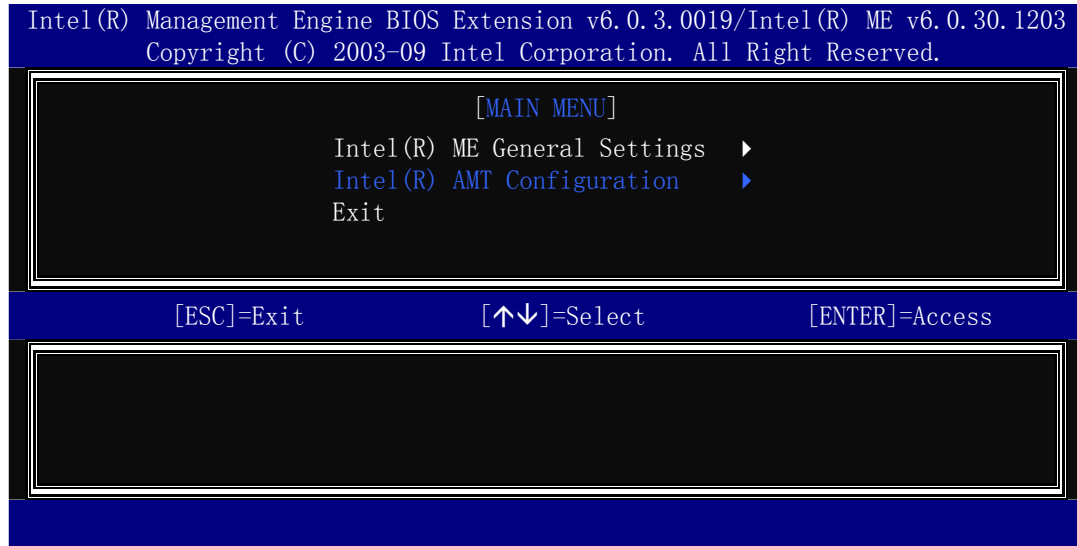

Figure A-4: Intel® AMT Configuration
Step 5: Select **Intel® AMT Configuration** and press **Enter** (**Figure A-4**).